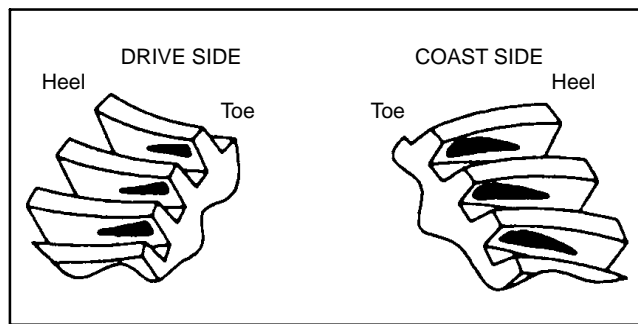

Figure 56
2. While applying a light load to the ring gear, rotate the pinion gear until the ring gear has made one complete revolution. The drive side pattern should be located at the toe portion of the tooth. The coast pattern should also be at the toe portion of the tooth (Fig. 56).